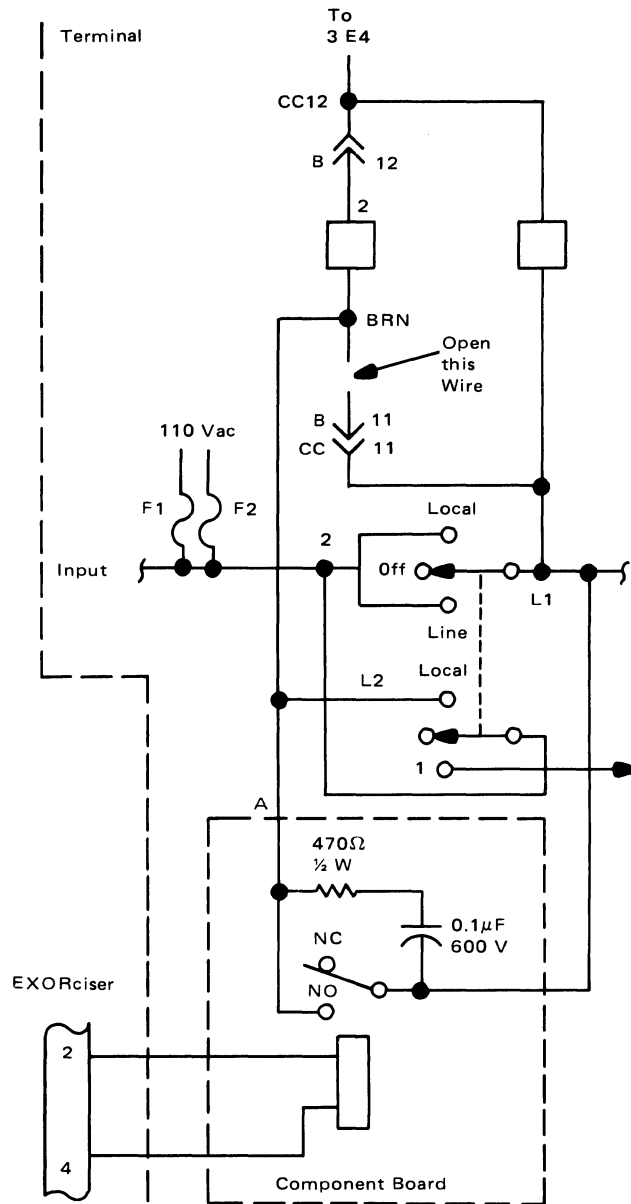

FIGURE 3. TTY Terminal Schematic Incorporating Automatic Reader Control
- c. Refer to the schematic diagram in Figure 3; connect the relay, capacitor, and resistor into the terminal circuitry. Wire A may be spliced to the brown wire near the connector plug. Both the LINE and LOCAL lines must be connected to the MODE switch, as shown.